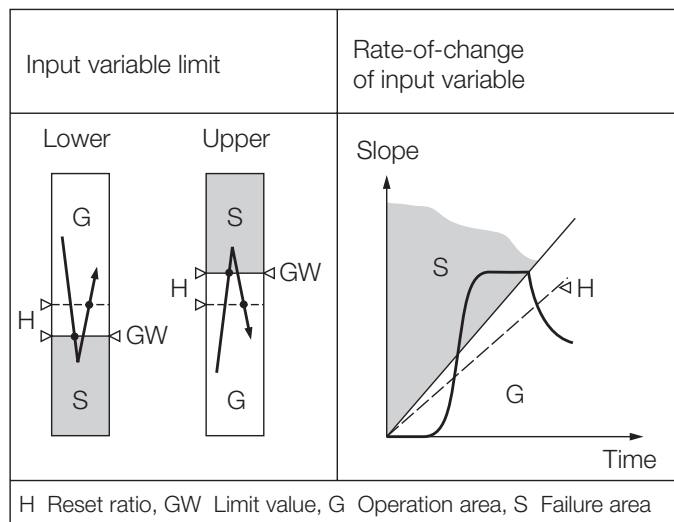

Fig. 4. Switching function according to limit monitored.
- Lower limit value of the measured variable (see Fig. 4, left)
- Upper limit value of the measured variable (see Fig. 4, left)
- (see Fig. 4, right)